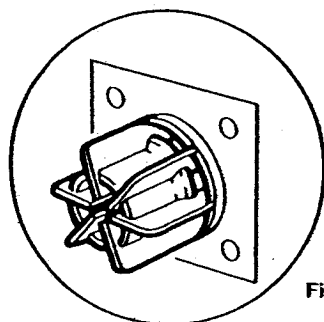

Fig. 59
- Fit the trim over the flue terminal and mark through the four securing holes. Remove the trim, drill holes 63mm (2 1/2 in) deep to accept suitable wall plugs. Fit the trim over the flue terminal and secure using suitable screws (Fig. 59).